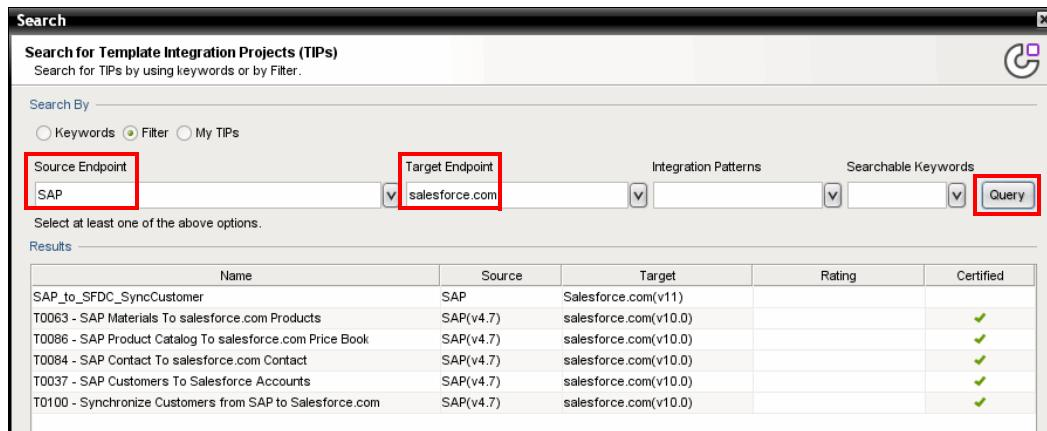

Figure 10-2 Selecting the source and target endpoints
3. In the Search window select **Filter**. Select **SAP** as the source endpoint and **Salesforce.com** as the target endpoint. Click **Query**, as shown in Figure 10-2 on page 361. A list of available templates displays in the Results section.